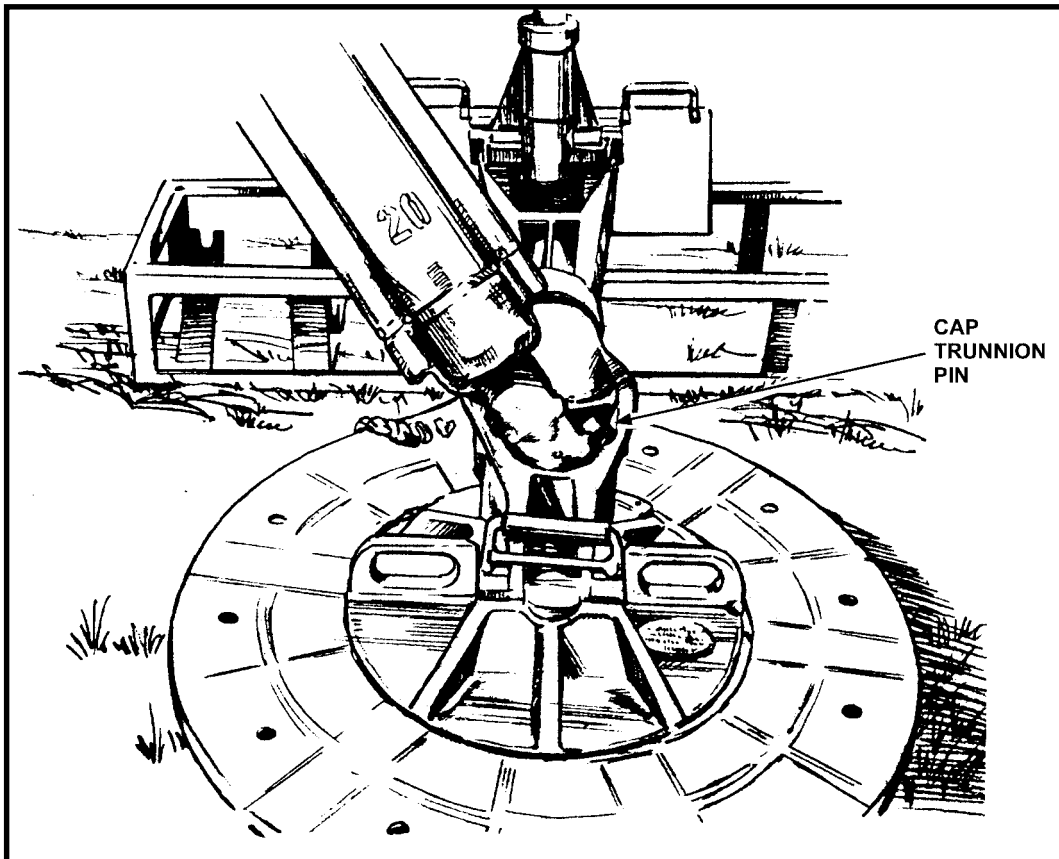

Figure 6-10. Barrel positioned into the bridge assembly.
f. The squad leader and ammunition bearer secure the barrel (the squad leader carrying the muzzle end) and bring it up on the left side. The squad leader inserts the left tube cap trunnion pin into its recess in the left side of the bridge socket (Figure 6-10). The ammunition bearer then cants the barrel to the right, allowing the right tube cap trunnion pin to slide down an elongated slot to its socket, and places the barrel on the right shoulder of the assistant gunner.